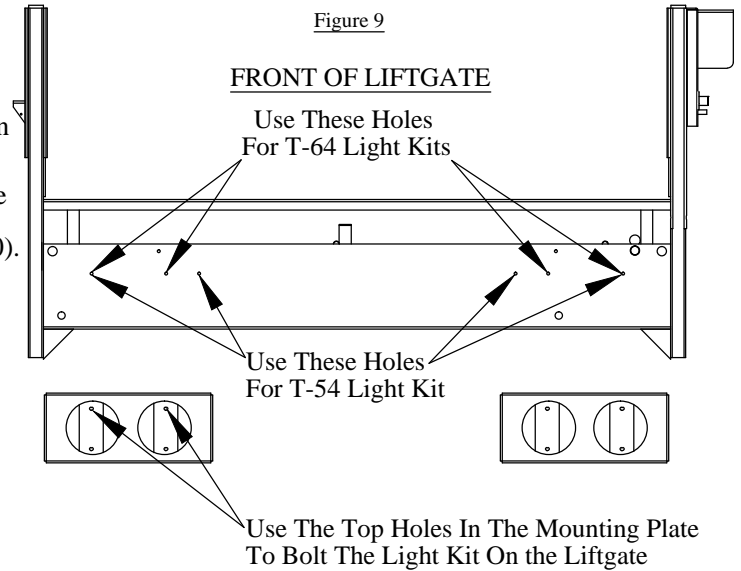

Figure 9
Step 8. Bolt the light kit to the liftgate using the supplied 1/4-20x3/4" bolts and 1/4-20 lock nuts. Tighten all bolts to 9ft-lb (Figure 9).